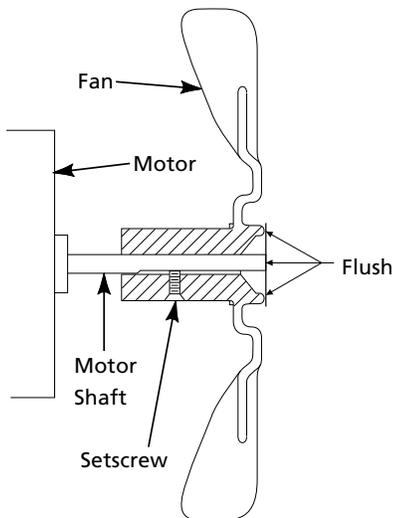

Figure 6 - Fan Cross Section
6. Replace fan on motor shaft. Place fan hub flush with end of motor shaft (See Figure 6).